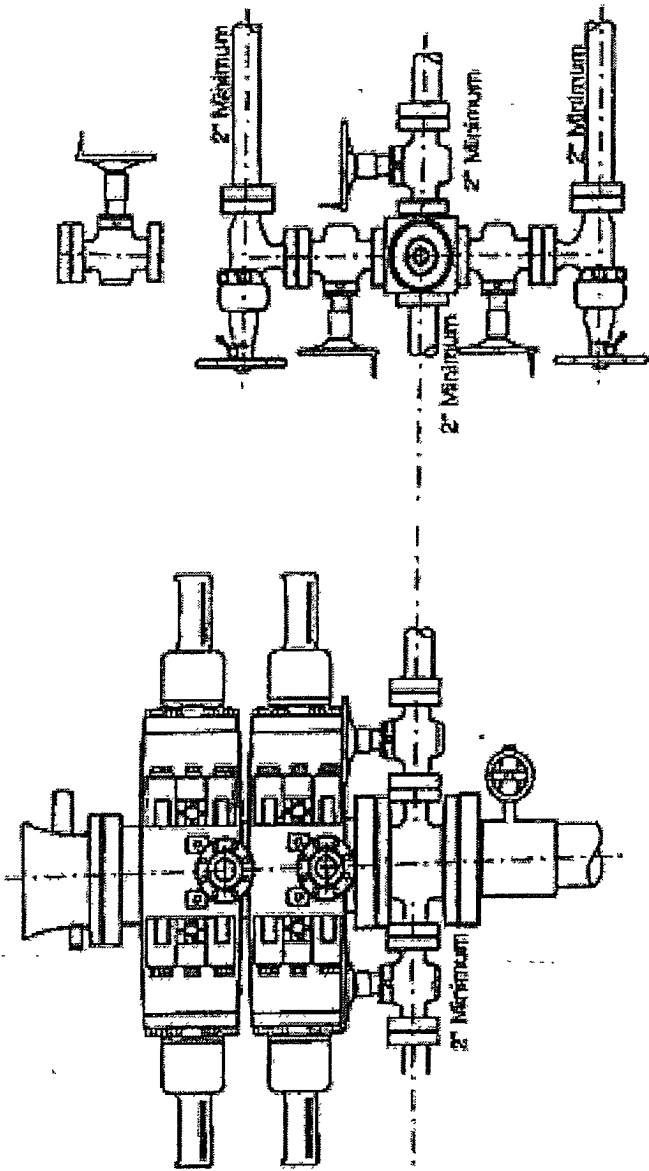

Figure 3-1
- Attachment # 3 ..... BOP and Choke Manifold Schematic – 2M System (Figure 3-1, Appendix G, from BLM)